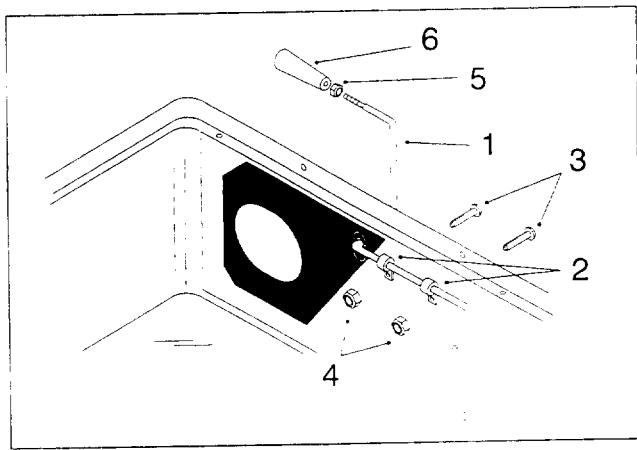

Figure 6
1. Install the "full-bag" indicator rod through the hole in the rubber seal and the slot in the bagger cover (Fig. 6). Mount the full-bag indicator rod against the bagger cover using two clips, $1/4" \times 5/8"$ pan-head screws, and $1/4"$ nylon lock nuts (Fig. 6).
2. Screw the jam nut completely onto the indicator rod (Fig. 6). Then screw the handle (Fig. 6) close to the jam nut so you can read the decal from the operator's position. Tighten the jam nut up against the handle to lock it in place.